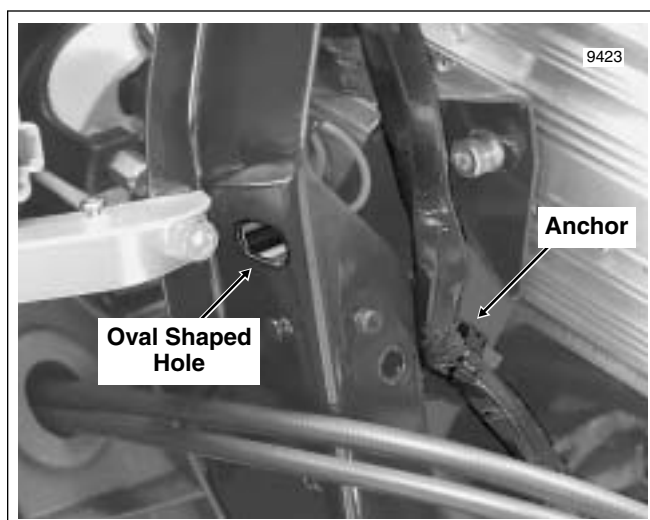
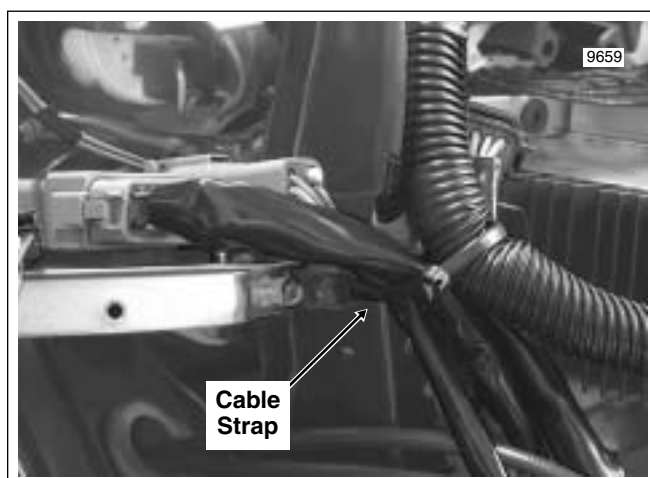

Figure 8-175. Anchor Conduit of Fairing Cap Switch Connector
Figure 8-176. Cable Strap Convoluted Tubing and Conduit to Fairing Bracket
5. On opposite side of inner fairing, remove anchor on conduit of fairing cap switch connector from hole in lower wing of right side radio support bracket. See Figure 8-175.
6. Cut cable strap to release convoluted tubing of interconnect harness and conduit of main to interconnect harness connectors [1], [2], [15] and [156] from right fairing bracket. See Figure 8-176.
13. On opposite side of inner fairing, install anchor on conduit of fairing cap switch connector into hole in lower wing of right side radio support bracket. See Figure 8-175.
14. Using oval shaped hole in right fairing bracket, install **new** cable strap capturing convoluted tubing of interconnect harness and conduit of main to interconnect harness connectors [1], [2], [15] and [156]. See Figure 8-175 and Figure 8-176.